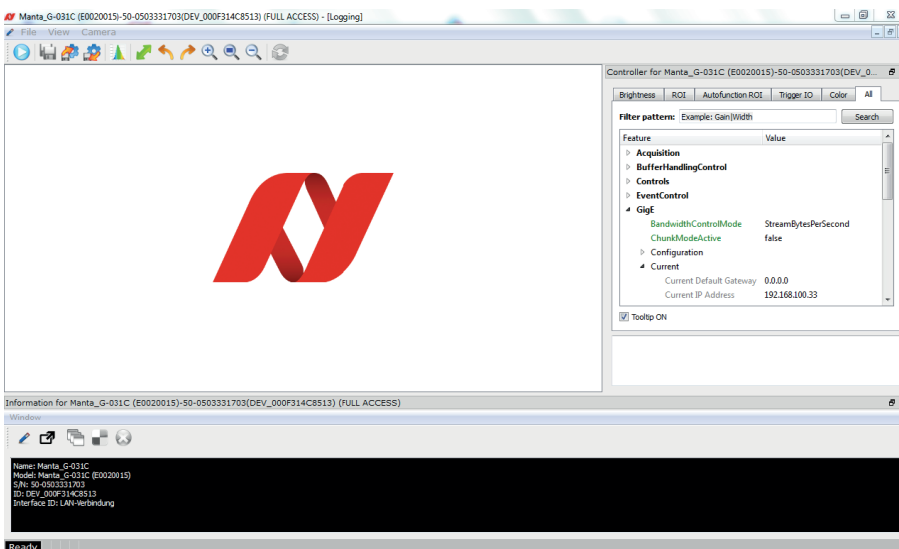

Fig. 5: IP address
- Search for the current IP address in the camera menu (Fig. 5).